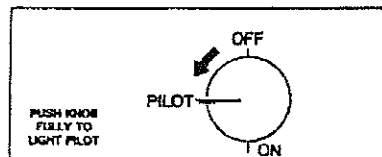

Figure 16. Rotate control valve to PILOT position.
3. Wait five (5) minutes to clear out any gas. If you then smell gas, STOP! Follow "2" in the safety information above. If you do not smell gas, go to the next step.
5. Turn the knob counterclockwise(↺) to the "PILOT". Do not push the knob in as you turn. (See Figure 16.)